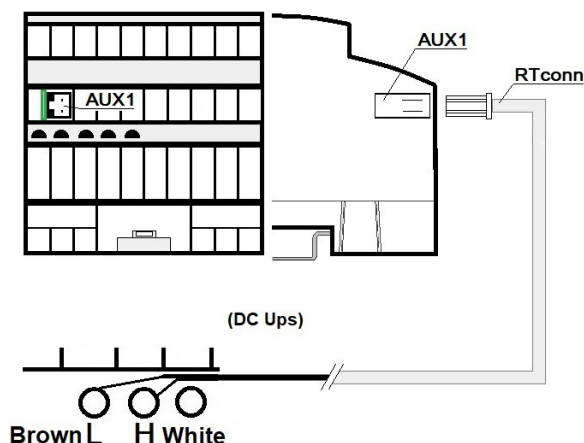

Fig. 4 –Connection RTConn cable
To ADELBUS connection, please connect the cable RTConn on AUX1 as explained in Fig.4 and connect the other side of the cable to the CAN terminals L (Brown) and H (White) of the DC Ups, with a line termination (LT) resistor 120 Ohm, present inside the cable kit.